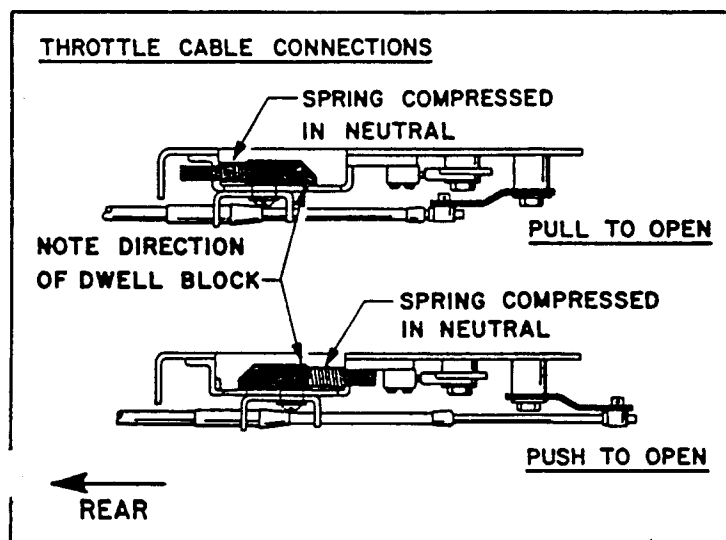

FIGURE 6
- a. Check carburetor throttle arm to determine whether push or pull is required to open throttle. See that throttle arm and spring dwell block are correctly assembled on control according to Figure 6.
- b. If action is incorrect, reverse throttle arm (20) by removing bolt (22) and lock-washer (21). Remove arm and reassemble in opposite position as shown in Figure 6.
This provides a means for absorbing the slight movement of the control head throttle arm during the shift cycle. (See Figure 6).)